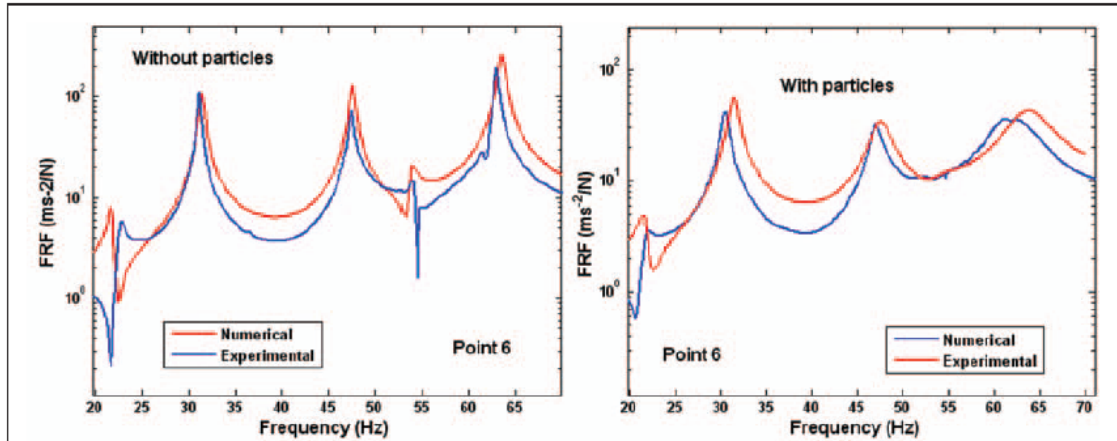

Fig 3
4. The simulation result looks like the Fig 3